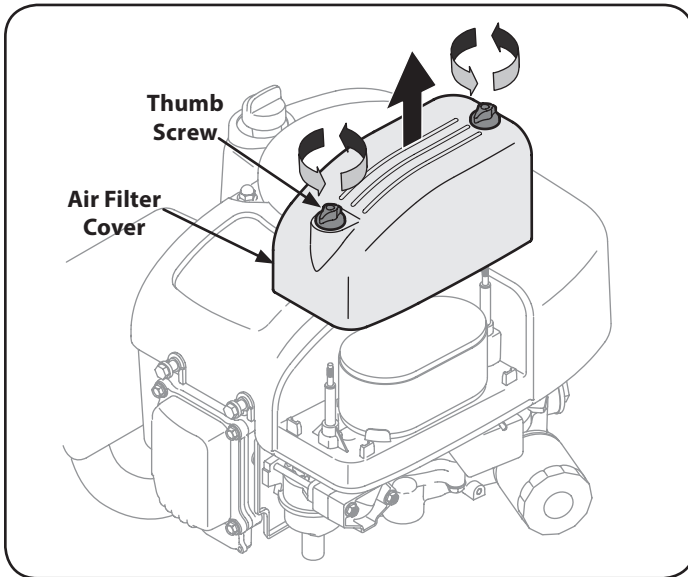

Figure 14
1. Unscrew the thumb screws and remove the air filter cover. See Figure 14.